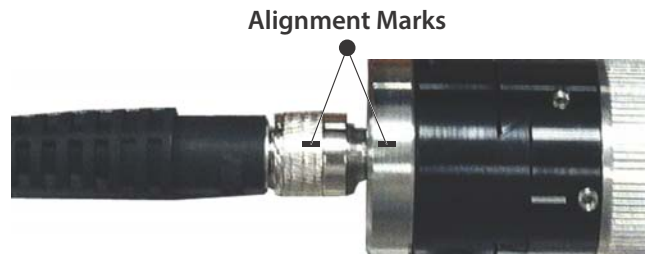

Figure 2-43. Add Alignment Marks
15. Add alignment marks on the fiber body and the laser body as shown in Figure 2-43. Use a felt-tip marker or a ballpoint pen on a small piece of tape. The alignment marks are used to realign the fiber body with the laser body.